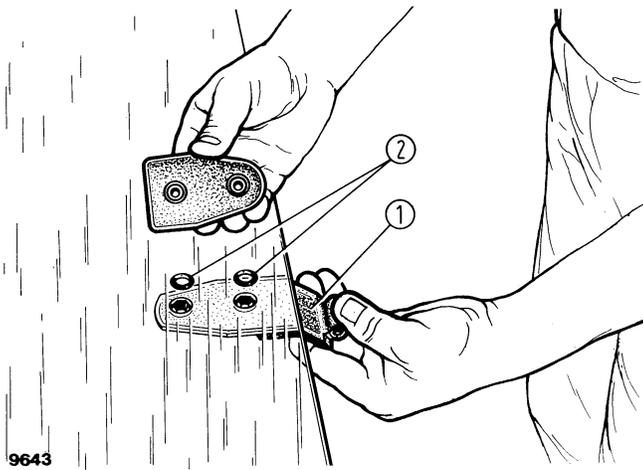

Fig. 6 - Rear glass hinge assembly
- Using a 4 mm socket wrench, back off 4 hinge capscrews from the inside of the cab and withdraw glass retrieving the 2 seals (2, Fig. 6).
- Line up glass with hinge, fit seals (2, Fig. 6) in glass holes, apply hinge inner plate and tighten capscrews to torque of 12 to 14 Nm (1.2 to 1.4 kgm, 8.7 to 10 ft.lb.) using wrench 293512.
- Position lower part of hinge on glass, fit seals (2, Fig. 6) in glass holes, apply hinge inner plate and tighten capscrews to torque of 12 to 14 Nm (1.2 to 1.4 kgm) using wrench 293512;